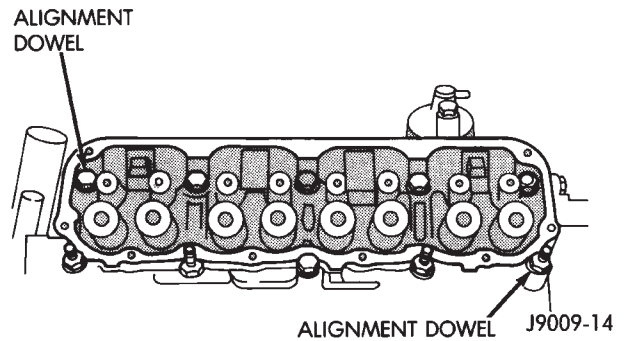

Fig. 36 Alignment Dowel Locations
(2) Install one dowel in bolt hole No.10 and the other dowel in bolt hole No.8 (Fig. 36).